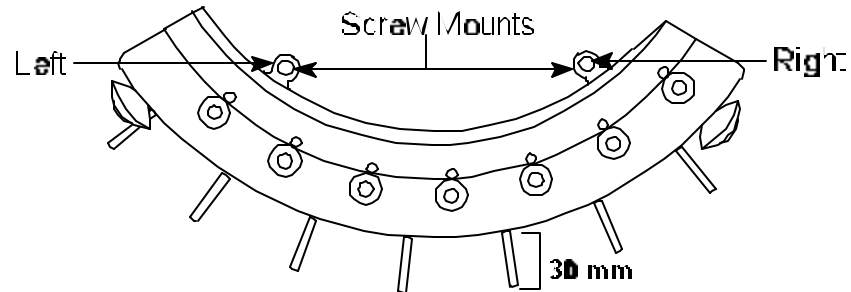

Figure 17
31. **Replace** Thread Apron. With both hands holding Thread Apron, insert right side first then follow through with left side. See Figure 17.